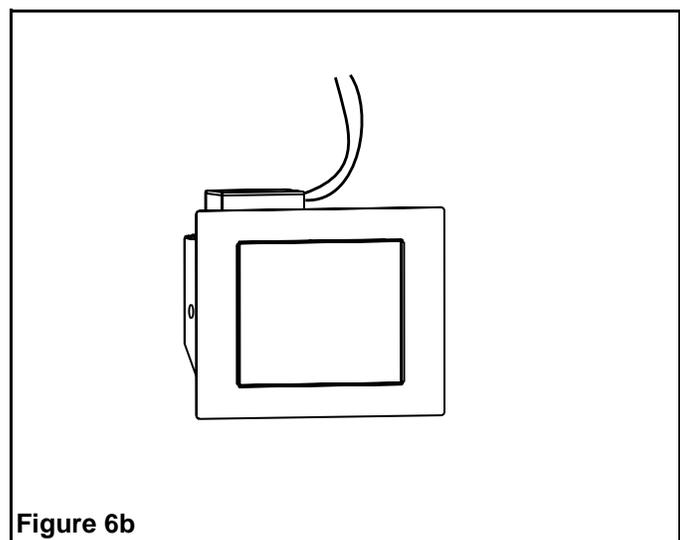

Figure 6b
5. Install the junction box on the lamp module with the two screws provided. Make sure the whole junction box installation follows the code (see Figure 6b).